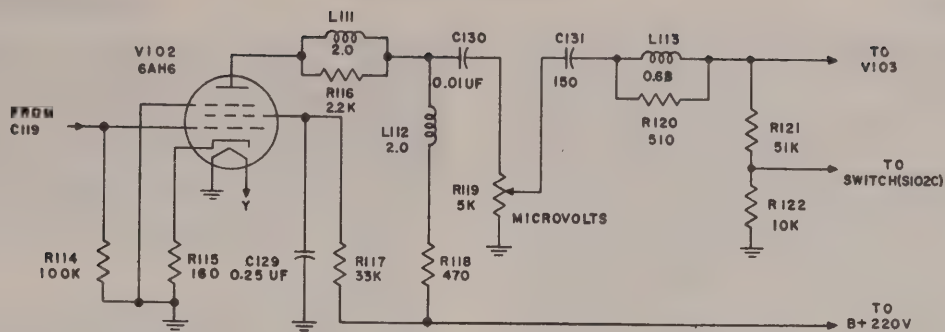

Figure 2-3. Simplified Schematic Diagram of the Buffer Stage
c. BUFFER STAGE (See figure 2-3).